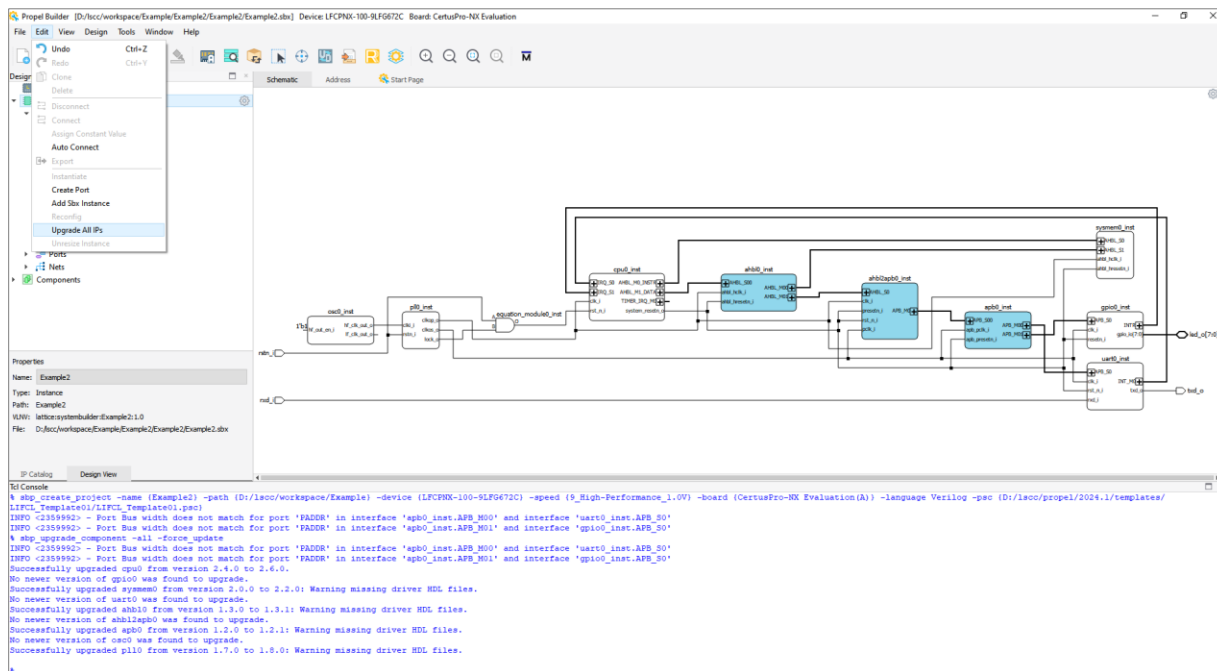

Figure 2.49. Upgrade All IPs
11. (Optional) Propel Builder also supports to update all IPs. Choose **Edit > Upgrade ALL Ips**. Wait a few seconds, depending on how sophisticated the design is, to see the result (Figure 2.49).